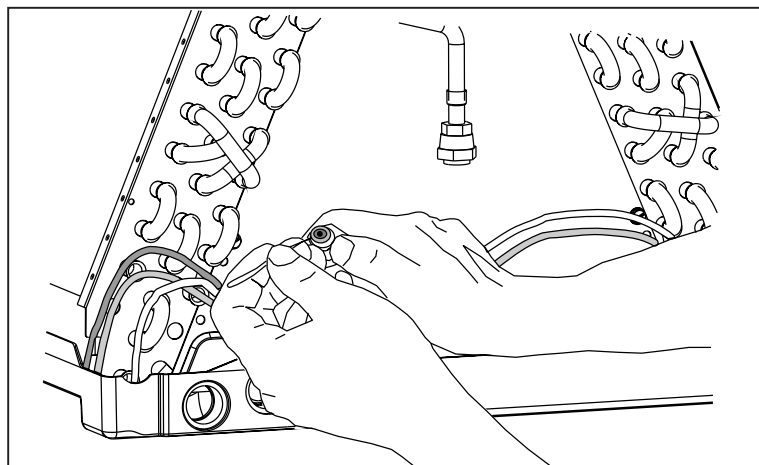

Figure 4. Removal of Orifice
3. Insert a light-gauge wire hook between the distributor body and the orifice to lift the orifice out of the body. (See Figure 4) Remove the orifice being careful not to scratch either part.